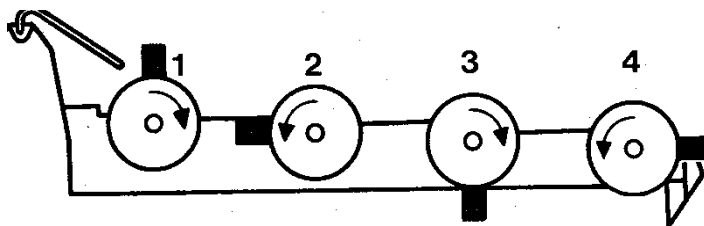

FIG. 13
(Fig. 13) When the first cutting edge of the blade is worn, interchange the blade (1) with blade (2) and the blade (3) with blade (4). This operation allows to use the second cutting edge of the blades.
To obtain a regular cut, it is essential to position the discs in relation to each other. Figure 13 shows the orientation of each blade when mounting the discs. After positioning, firmly tighten the Nyloc nuts (2 Fig. 11)
[Balance washers may be replaced by blades, so that each disc has 2 blades. The orientation of the blades and discs is unchanged from that in Fig 13]